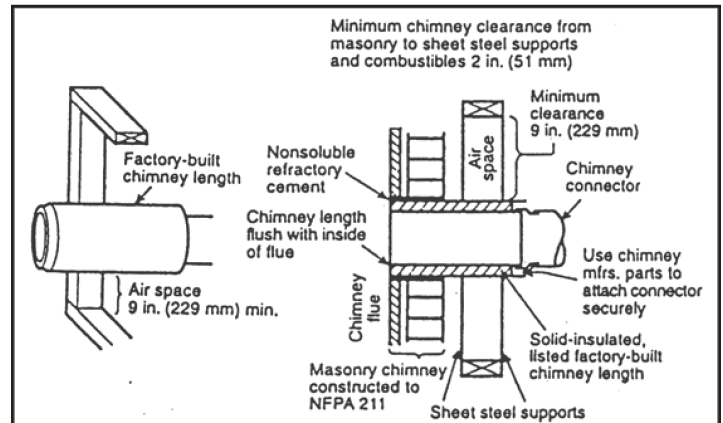

Figure 11
4. A chimney connector to a masonry chimney, except for 2" above (Figure 11), shall extend through the wall pass-through system to the inner face of the chimney flue, but not beyond. It does not have to be fastened in place so long as it cannot accidentally be pulled out of the chimney or shoved into the chimney flue. If fasteners are used to secure the chimney connector to a masonry chimney, the fasteners shall not penetrate the chimney flue liner.